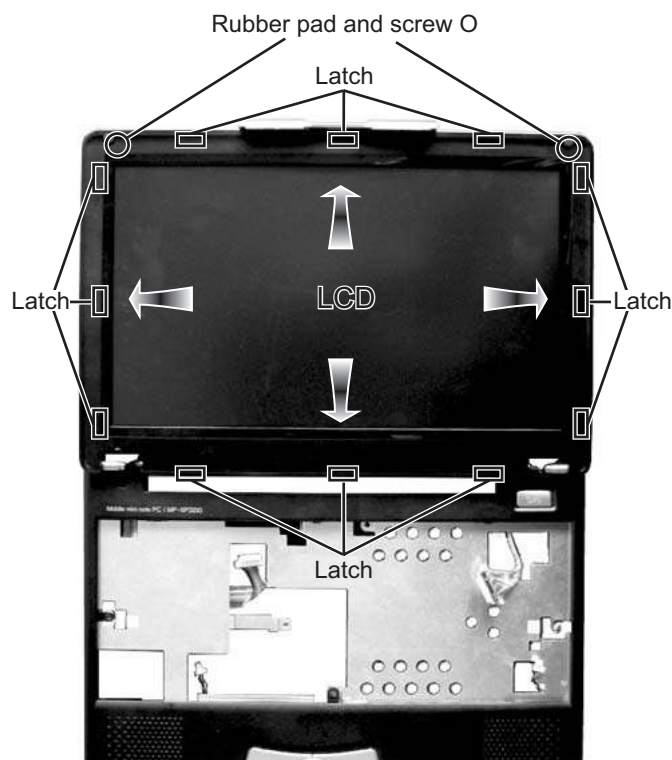
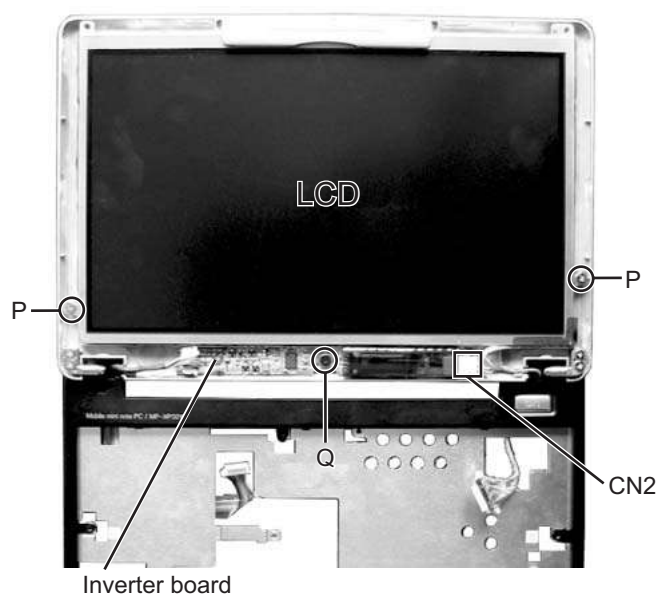

Fig.17
Fig.18
1.1.7 Removing the LCD panel (See Figure 17 and Figure 18)